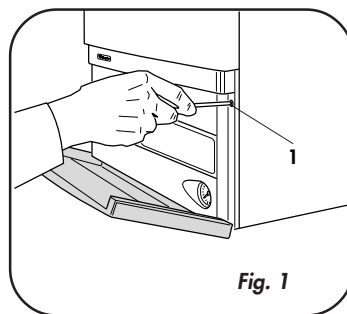

Fig. 1
- Undo the two control panel fixing screws (1) (fig. 1)